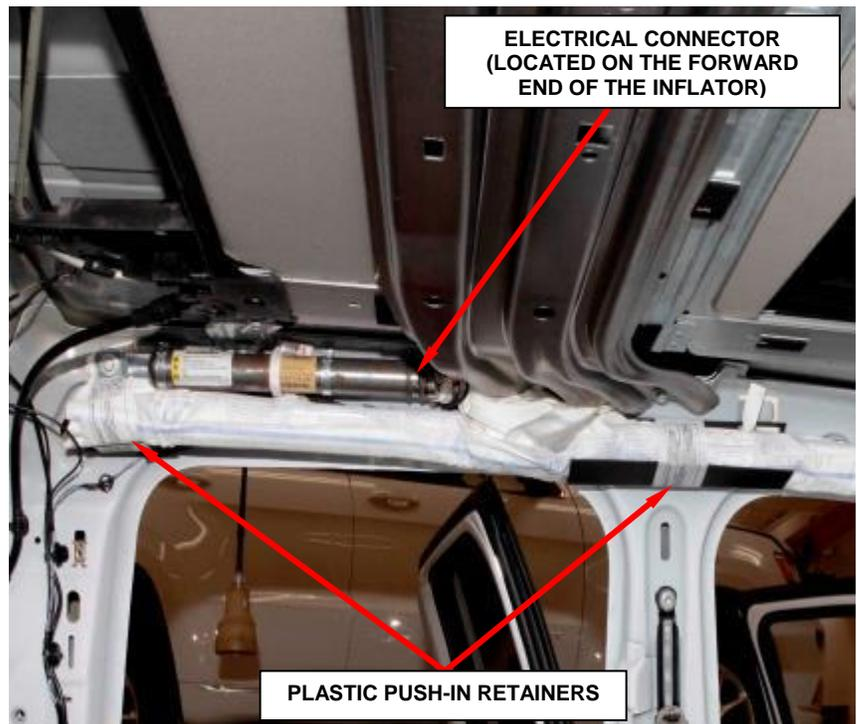

Figure 29 - Plastic Push-in Retainers
3. Disengage the two plastic push-in retainers that secure the side airbag inflatable curtain to the inner roof rail (Figure 29).
4. The body wire harness electrical connector is secured by integral latches to the connector receptacle at the rear of the inflator. Pinch both latches firmly, then pull the insulator straight out from the airbag inflator to disconnect it from the connector receptacle (Figure 29).
11. Connect the body wire harness electrical connector for the side airbag inflatable curtain to the connector receptacle at the back of the inflator. Be certain that each connector is fully engaged in its receptacle by listening carefully for a distinct, audible click as each connector latch snaps into place (Figure 29).
12. Align the two plastic push-in retainers that secure the side airbag inflatable curtain with the holes in the inner roof side rail and push it straight in until they are fully seated (Figure 29).